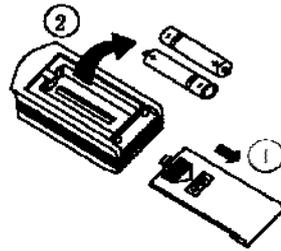

Fig.1
1、 Slightly to press the place with  along the arrowhead direction to push the back cover of remote controller.(As show in Fig 1.)